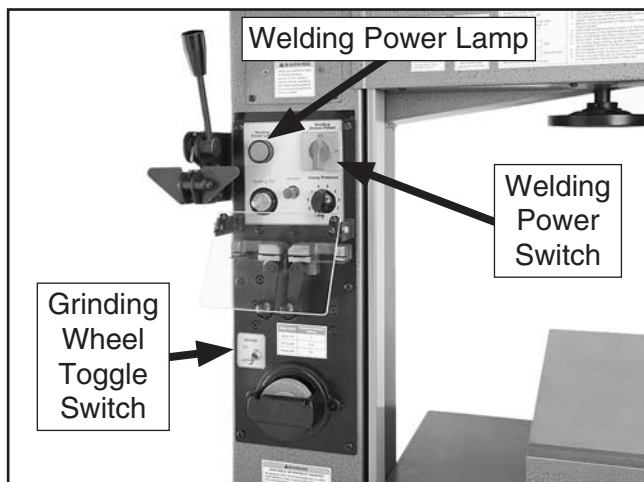

Figure 31. Welding station.
10. Reset the STOP button, then turn the welding power switch on the welding station (see **Figure 31**) to the ON position. The welding power lamp should illuminate.